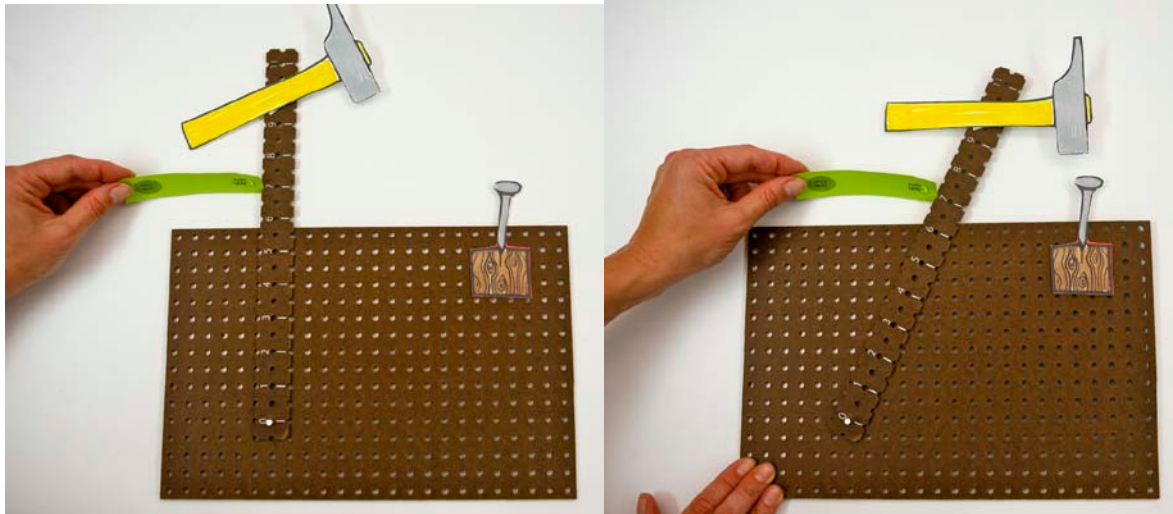
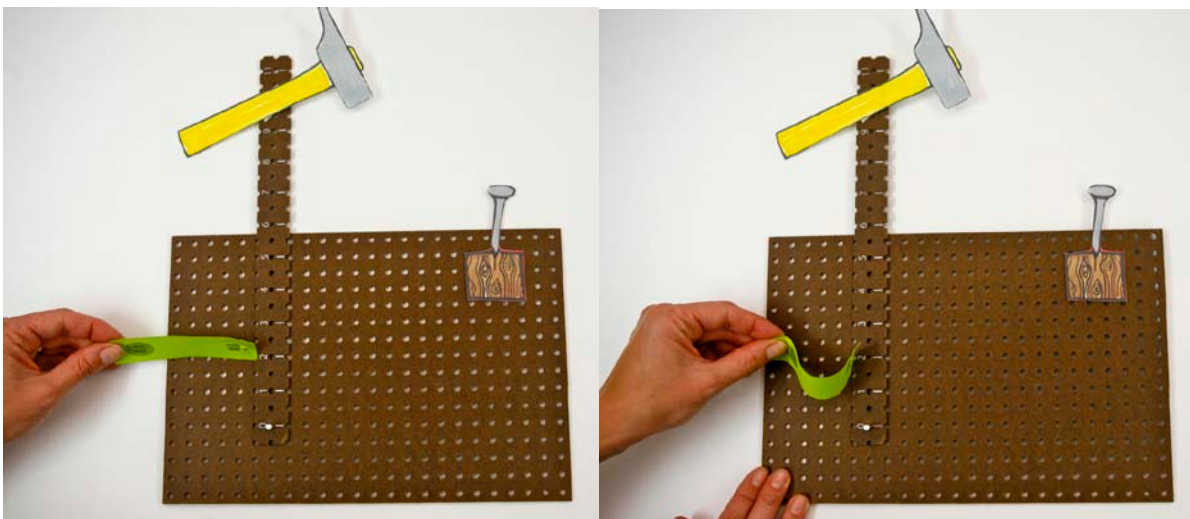

Figure 3: Hammer using Force Probe as input link
Figure 4: Sometimes the force probe can't operate the hammer, because it buckles!
Distribute force probes, cut from the Force Probe Template, printed or photocopied onto cardstock. Instruct students to disconnect the floating pivot and remove the input link, and use a Force Probe instead of the input link. See Figure 3.
3. **How does distance from the fixed pivot affect the amount of force needed?** Demonstrate how to perform the experiment. Each student uses a **force probe** to see how much force is needed at various points along the lever. The idea is to hold the cardstock strip at one end, between two fingers, and try to use it to push the pegboard strip against the rubber band, at various points along the pegboard strip. Points on the lever are marked by distance from the fixed pivot. Students should try the force probe at different marked distances, beginning near the far end, such as 7", 5", 3" and 1". If the force is too much, the force probe will **buckle**. Students should first try pushing the lever with the force probe at different points, just to get a sense of what before moving on to the next step. If it is too close to the fixed pivot, the probe will buckle, because too much force is required, as in Figure 4. If it is far enough away, the probe will be able to operate the hammer, as in Figure 3.
If students don't observe any buckling at all, even at short distances, they are probably compensating by holding the force probe closer to the lever. You may need to remind them that the goal of the experiment is not to make the lever move, but to investigate how much force it takes at different points. In order to conduct a **fair test**, they will need to hold the force probe where it says "HOLD HERE" each time they try it, as in Figures 3 & 4.